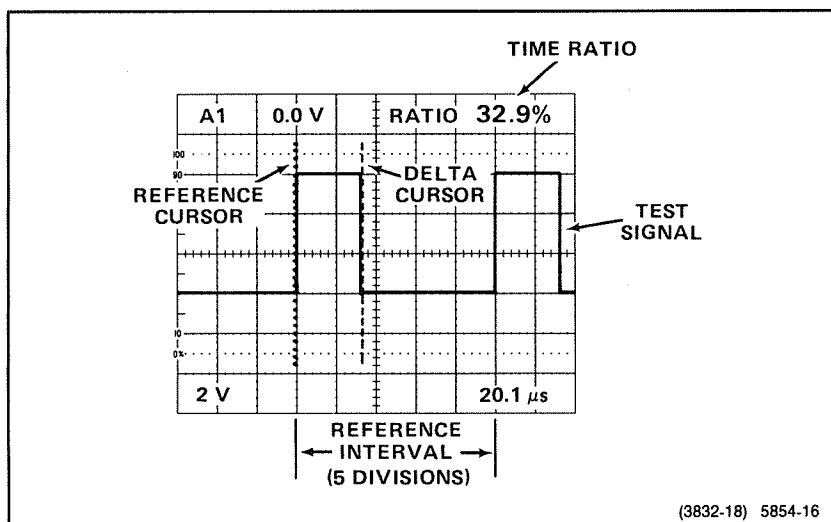

Figure 3-5. Time ratio (duty factor).
2. Activate  $\Delta t$  and align the two vertical cursors with the beginning and end of the high portion of the pulse. Measure the low portion of the pulse if you want to measure the portion of the cycle that is low (see Figure 3-5).